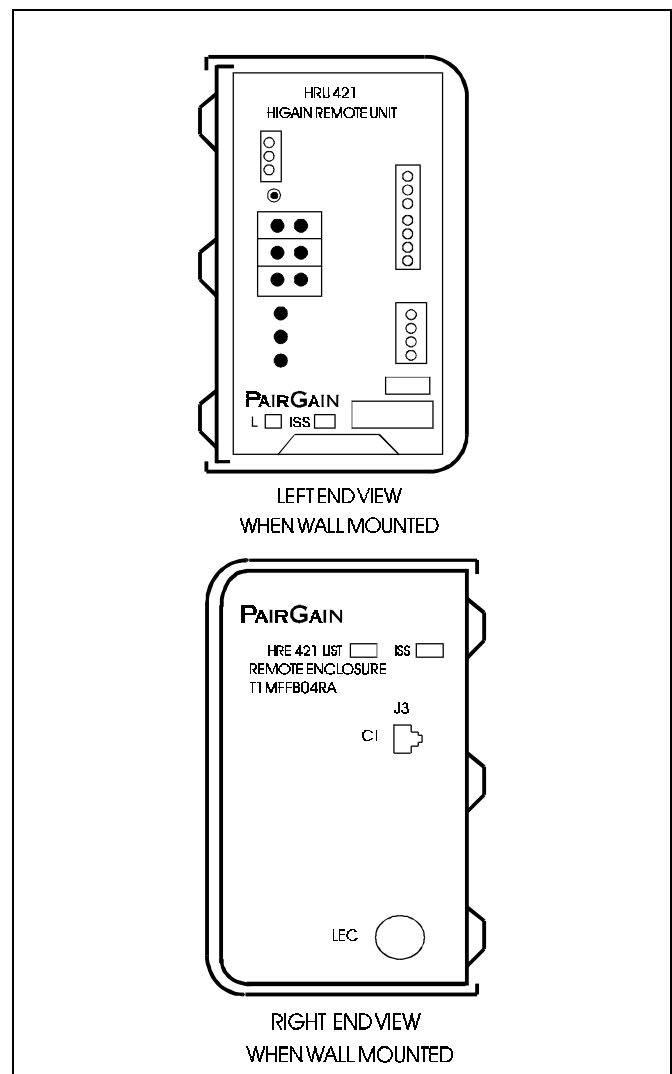

Figure 1. Left and right view of HRE 421, List 1 Enclosure.
6.01 See Figures 1 and 2. Select a location for wall mounting the unit which will allow sufficient access to wiring connections on the right and indicators, test jacks, etc., on the left. Lift the cover off the mounting plate and use it as a template for drilling or locating mounting holes. Attach the plate securely to the wall.